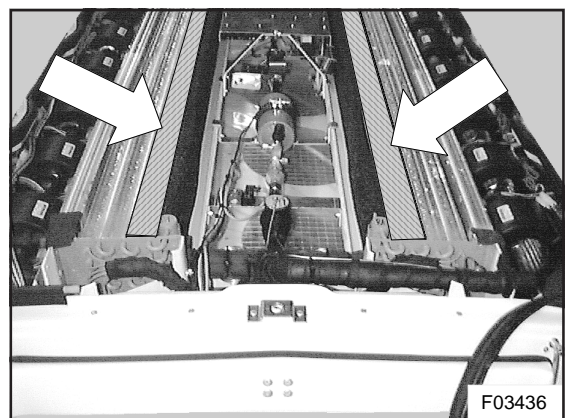

Figure 8: Location of insulating tape on inner edge of evaporator coils
11. Cover inner edge of evaporator coils with 5 ft of 2 x 1/8 inch Armaflex insulating tape as indicated in figure 8.